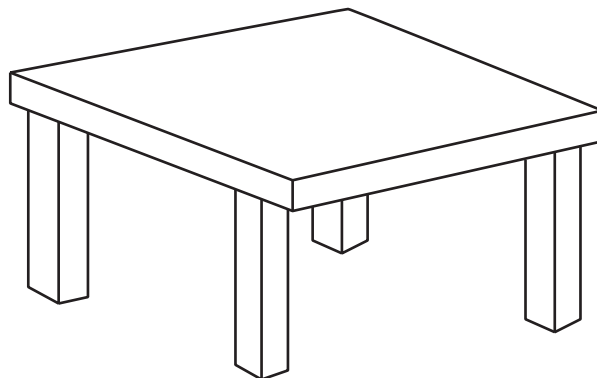

Fig. 5(b)
- (b) **Figure 5(b)** shows a diagram of a wooden coffee table that was made in a school workshop.